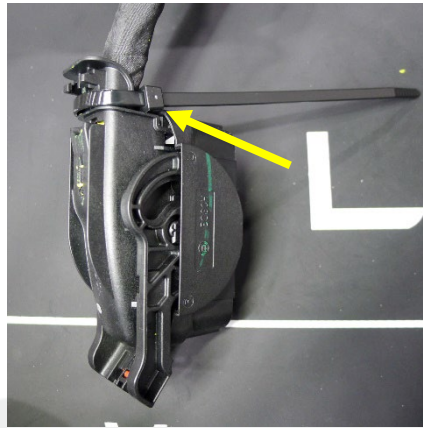

Figure 36
31. Fasten a small cable tie to the rear of connector X151 to secure the rear cover (Figure 36), and then trim the tie.